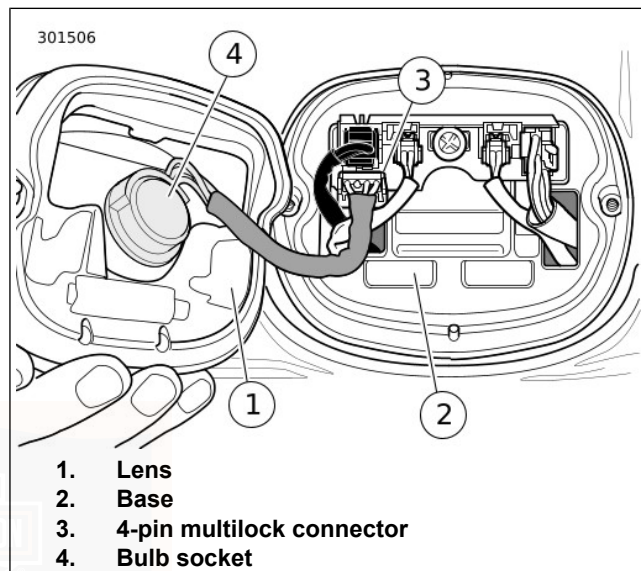

Figure 72. Tail Lamp Assembly
2. See Figure 72. Disconnect tail lamp connector (3).
2. Insert socket (4) into tail lamp assembly. Rotate 1/4 turn clockwise.
3. See Figure 72. Connect tail lamp connector (3).